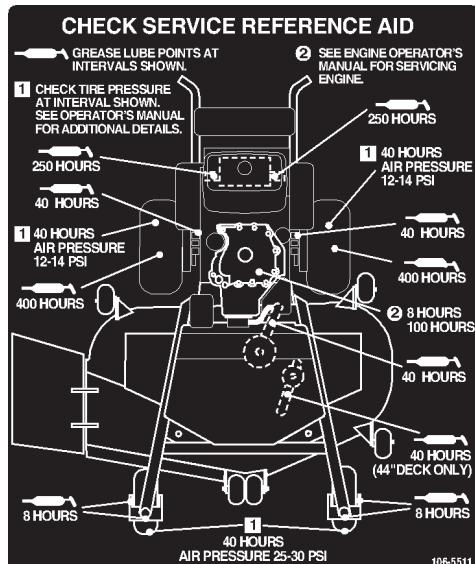

Figure 36
1. Lubricate the grease fittings as shown on the Check Service Reference Aid decal (Fig. 36).